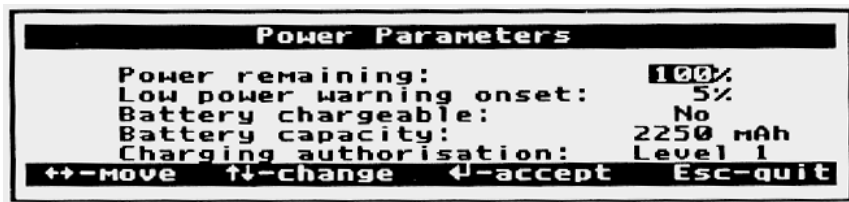

Figure A.2. FS/2 or FS/3 Power Parameters Screen
5. If the FS/2 or FS/3 has been recharged, or if a power interruption has occurred (e.g., the batteries were replaced), then the FS/2 or FS/3 power parameters screen may appear (Figure A.2) .